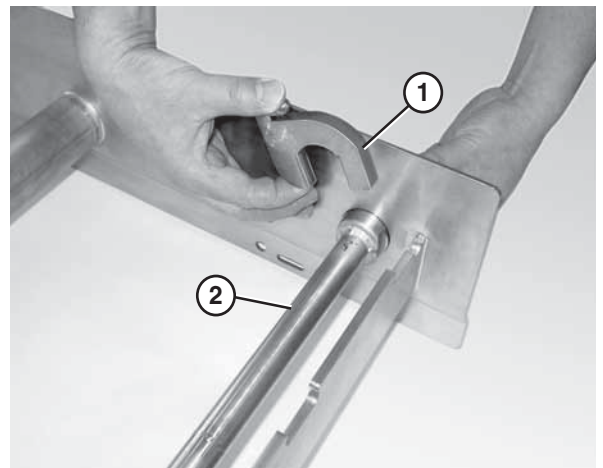

Figure 19
2. Attach the key stops (Figure 19, item 1) to the tip up shaft (Figure 19, item 2). The rounded end of the key stop should be facing the tail.